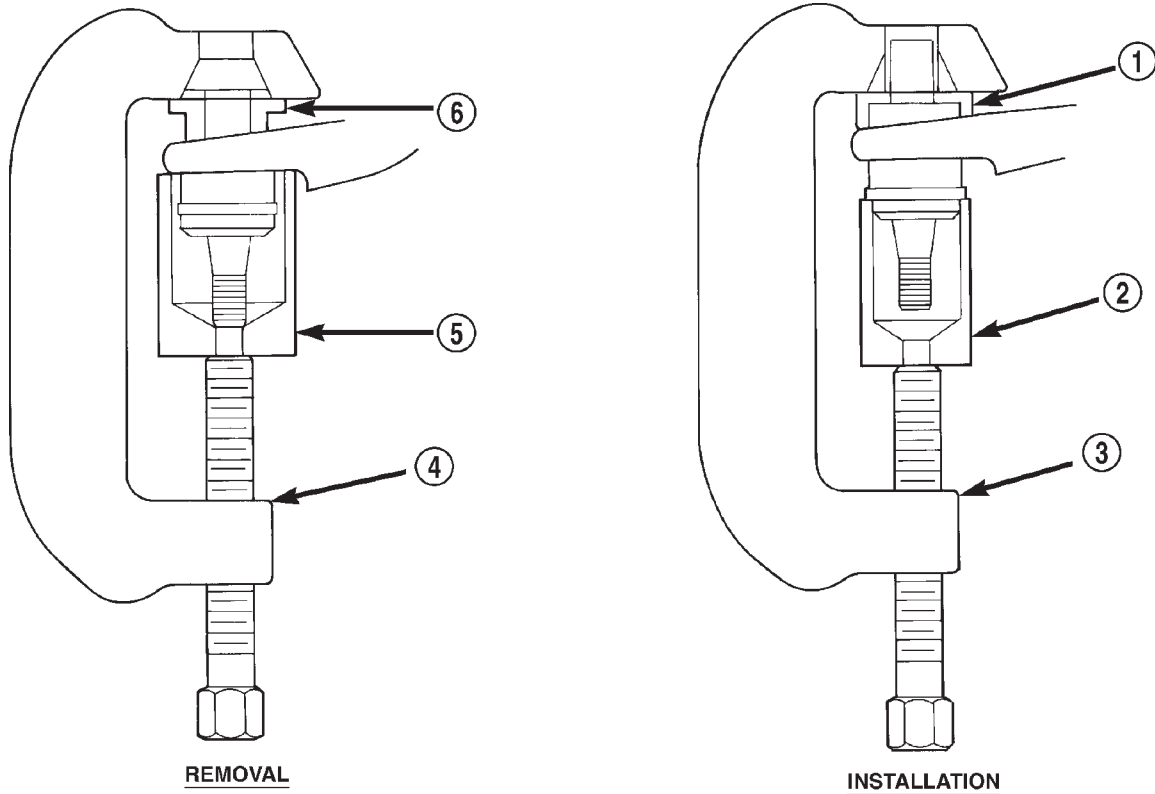

Fig. 27 Lower Ball Stud Remove/Install
(1) Position tools as shown to remove and install ball stud (Fig. 27).